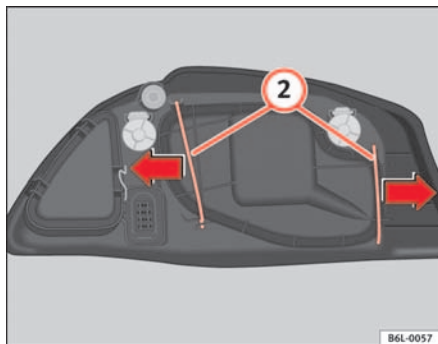

Fig. 142 Main beam lamp
- Remove the loops (2) ⇒ fig. 142 outwards in the direction of the arrow and remove the cover.
- Fit the plastic cover and replace the loops (2) ⇒ fig. 142.